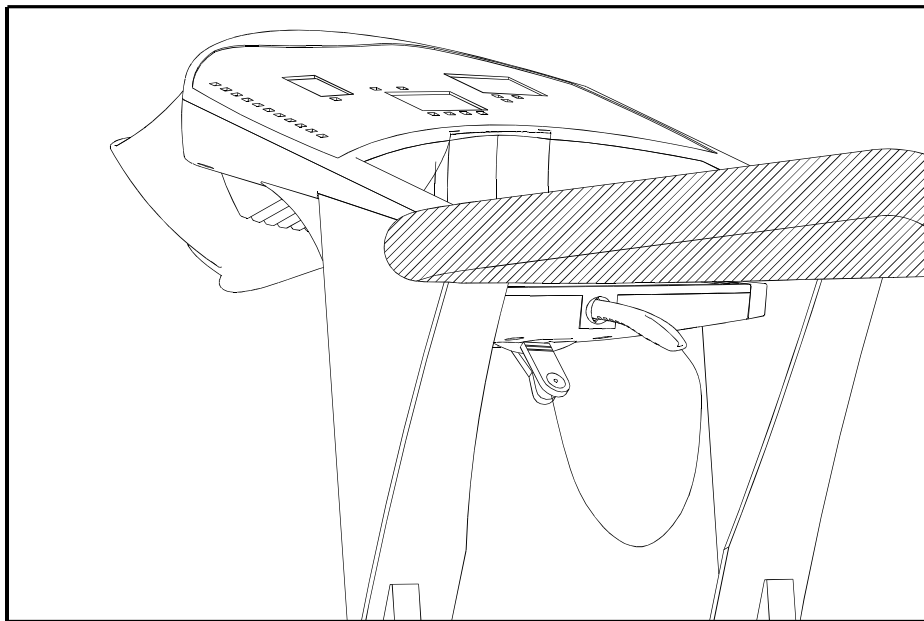

Fig.10
The safety key is required to operate the treadmill (see Fig.10). The safety key should be used as an emergency stop by clipping the cord to your exercise clothing. Be sure to store it in a safe place to avoid use by children or persons unfamiliar with this treadmill.
- A. Turn on the power switch located on the front of the treadmill, then electronics will scroll through with the message "PLACE SAFETY KEY". The treadmill will not function without placing safety key in its position(see Fig.10).